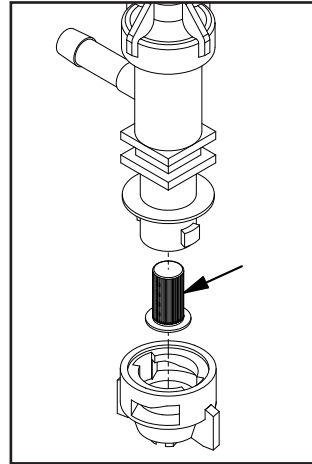
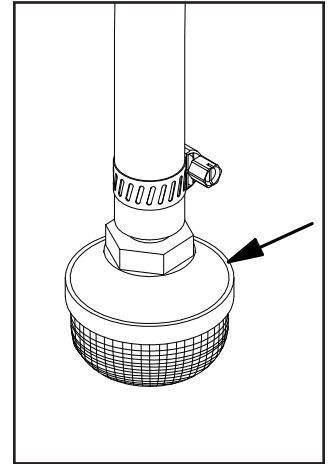

Figure 6: Tip Strainer
Figure 7: Suction strainer
3. The nozzle tip strainer (Figure 6) and the suction strainer (Figure 7) should be taken out and rinsed regularly.